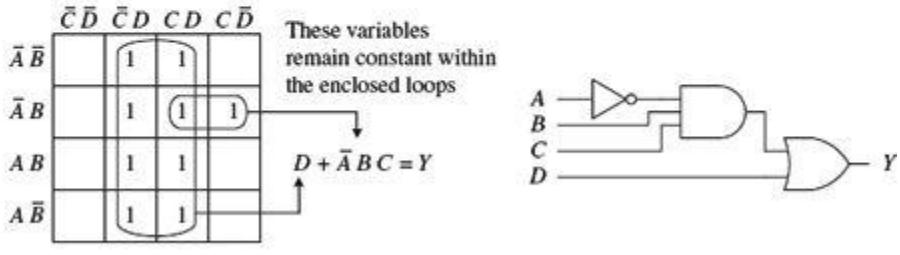

FIGURE 12.28
5. The SOP expression you end up with is the simplest possible expression. With it, you can create your logic circuit. You may need to apply some bubble pushing to make the final circuit practical, as shown in Fig. 12.28.
To apply Karnaugh mapping to four-input circuits, you apply the same basic steps used in the three-input scheme. However, now you must use a 4×4 Karnaugh map to hold all the necessary information. Figure 12.28 shows an example of how a four-input truth table (or unsimplified four-variable SOP expression) can be mapped and converted into a simplified SOP expression that can be used to create the final logic circuit.